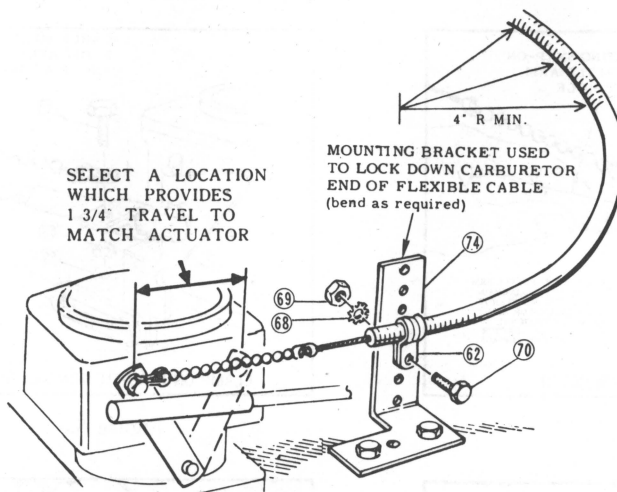

Figure 8.7
5. Clamp the cable conduit. The outside conduit of the cable must be securely mounted for smooth cruise operation, but not tight enough to be crushed. Figures 8.7, 8.8, and 8.9 show several methods to mount the cable using parts shown in Figure 8.10. Before the cable is completely tight, remove the slack from the bead chain by adjusting the cable conduit. Make sure the throttle is at hot idle and not on a fast or cold idle step. When everything is tightened, there should only be a slight amount of slack in the bead chain.